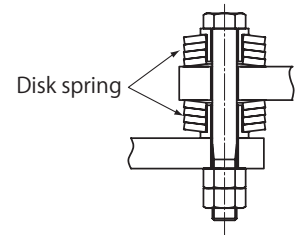
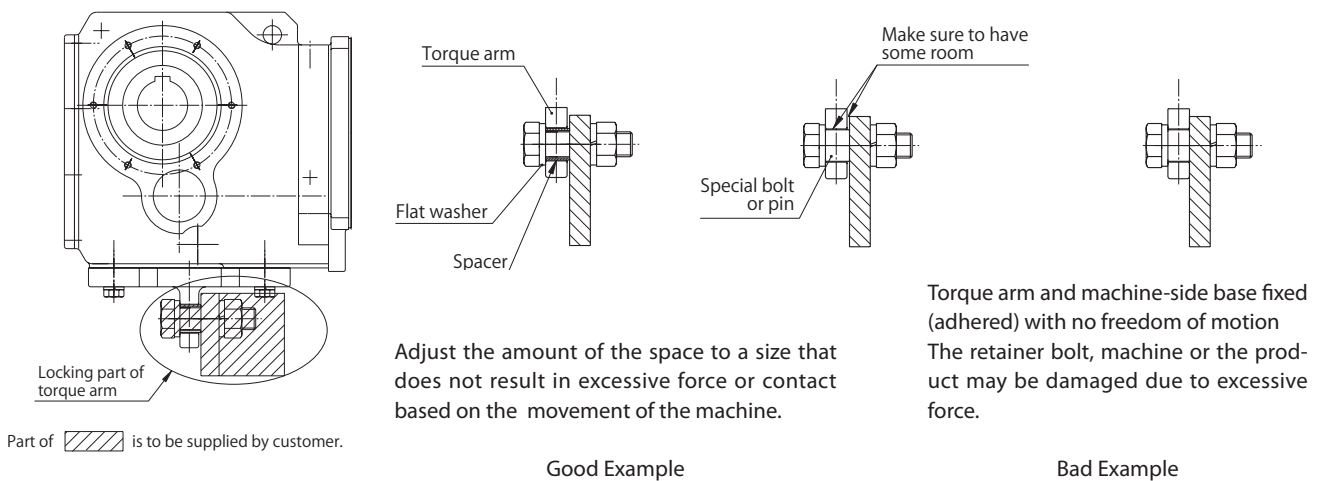

Figure 5-12 Disk Spring
Figure 5-13 Retainer Mounting Examples (Attachment Type Torque Arm)
- (1) Mount the torque arm on the driven shaft machine side of the case.
- (2) Ensure there is some degree of freedom for the torque arm retainer (Figure 5-13, 5-14) so that no excessive force is applied between the product and the driven shaft. (The retainer is to be prepared by the customer.)
- (3) Never fix the torque arm using a retainer bolt.
- (4) If frequent starting and stopping are expected, or for repetitious plugging operations, attach a disk spring (see Fig. 5-12) between the torque arm and the mounting bolt (or spacer) as a buffer material to lessen the impact.
- (5) Use bolts that have a strength class of at least 10.9 (JIS B 1051).
- (6) When installing the torque arm, be sure to lock the bolt.